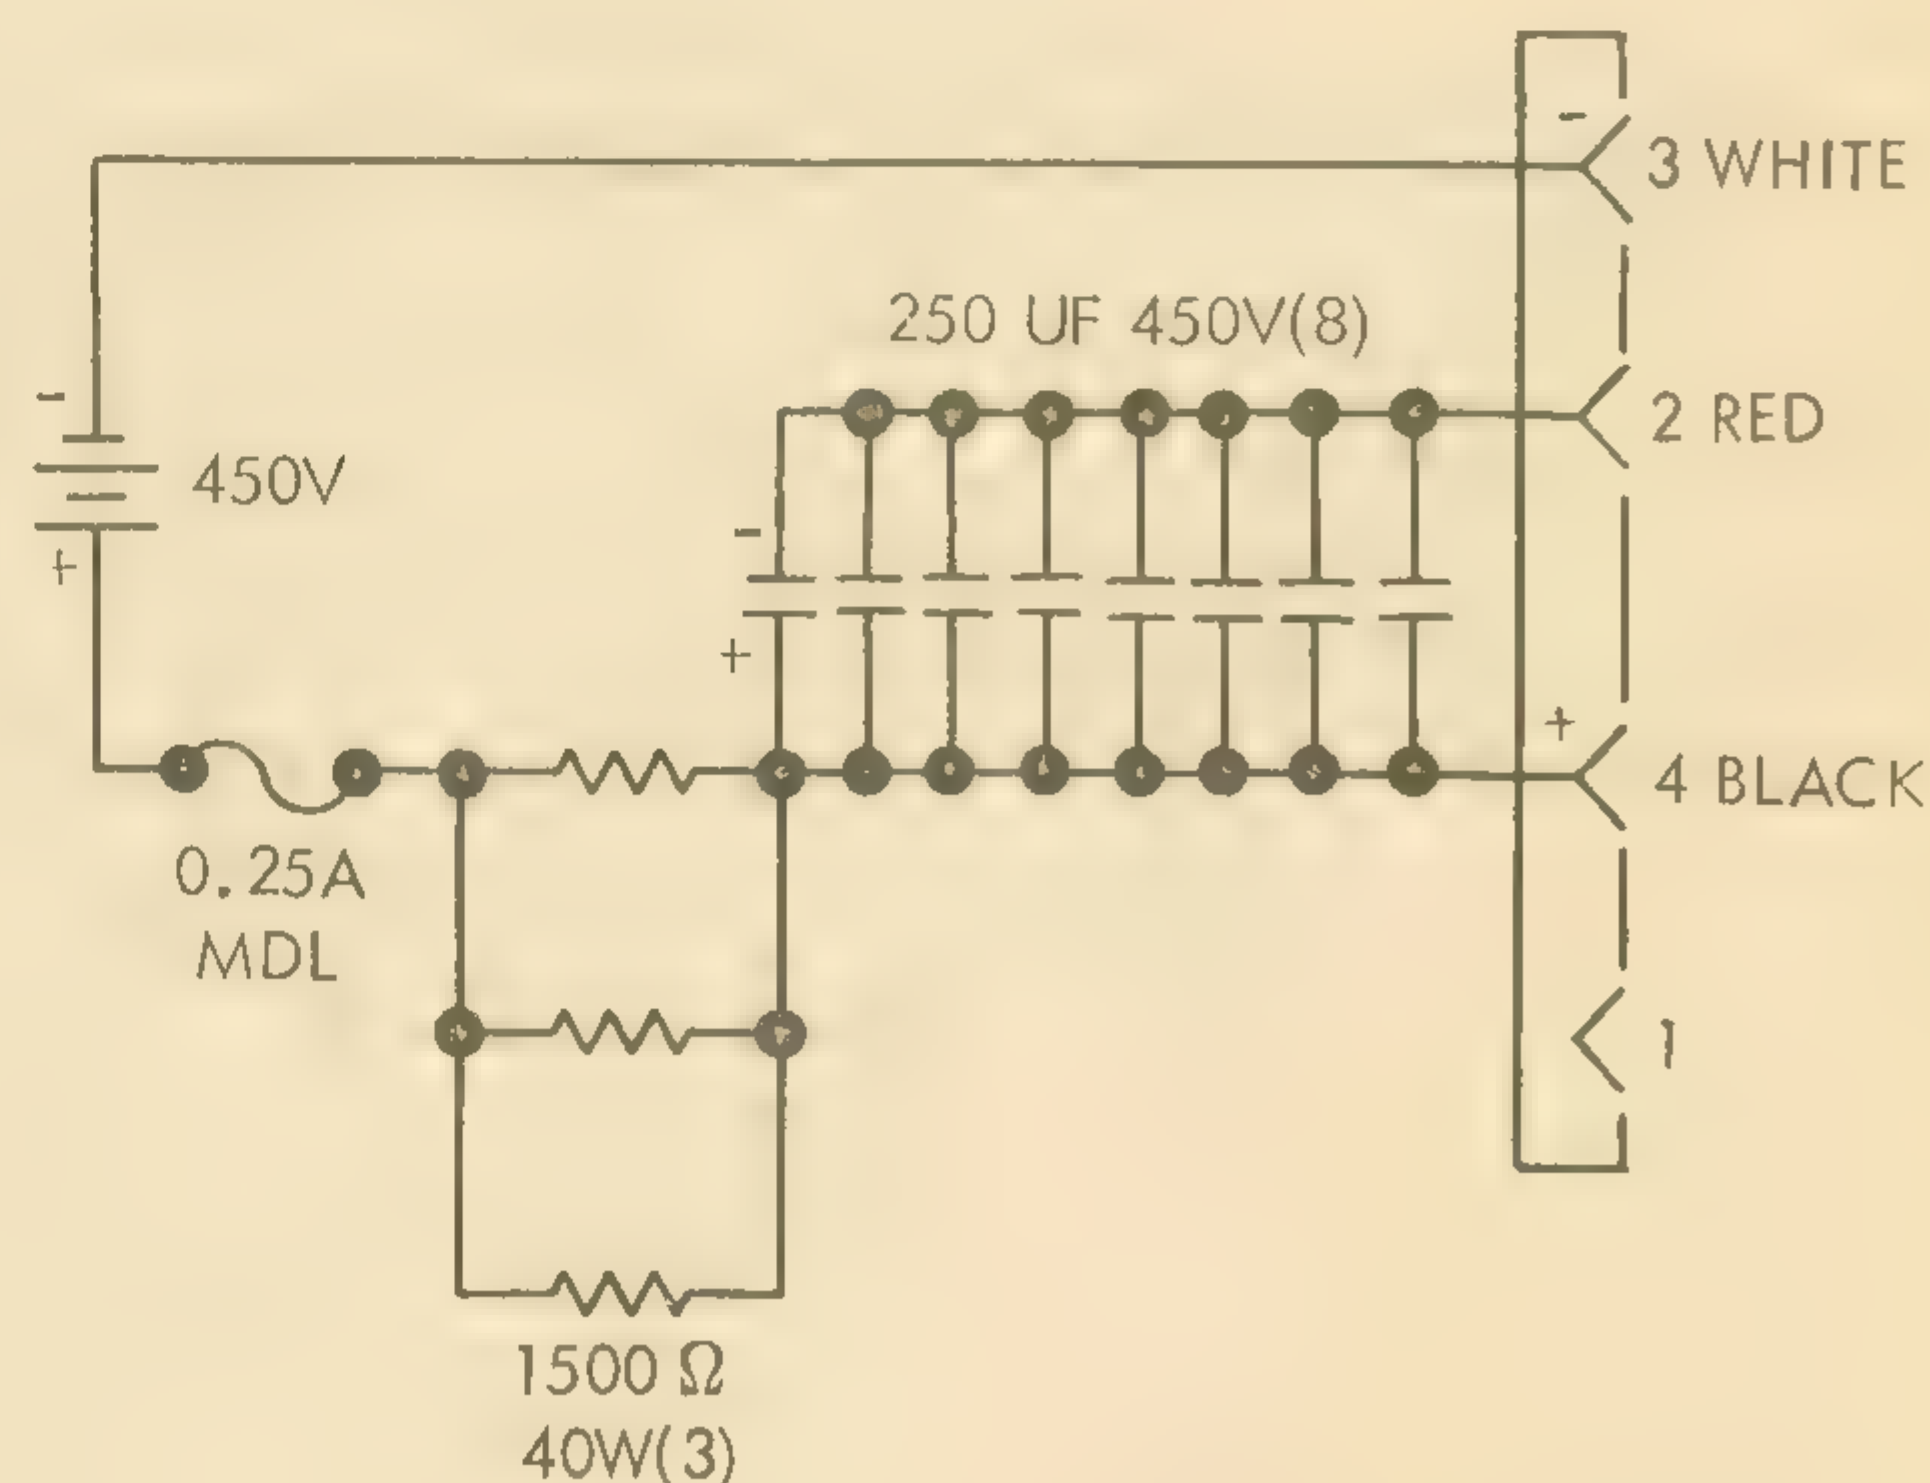

Figure 10. STROBOFLASH III POWER PACK, SCHEMATIC DIAGRAM
To facilitate the repair of Strobflash III Power Packs (no longer available), a listing of replacement parts has been included in the PARTS LIST. This model is very similar to the Strobflash IV Power Pack and the servicing instructions for the Strobflash IV Power Pack are generally applicable. Refer to figure 10 for wiring connections.
b. After removing retaining rings (1, figure 10), squeeze sides of upper housing to expand ends so that they will clear teenuts on tray assembly.
d. Make certain to install lock washer (4, figure 10) on shaft of switch before installing capacitor pack assembly in housing.